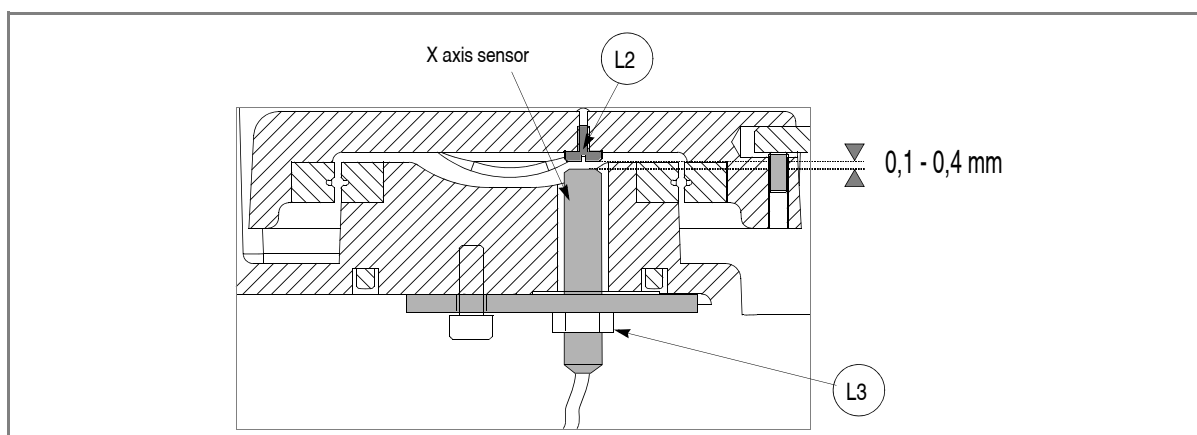

Fig. 57
- 4) loosen the (L3) nut. Unscrew the sensor from the plate and remove (fig. 57).
- 6) fit the new sensor in position, tightening it until it almost touches the (L2) screw (fig. 57) thus securing it with the (L3) nut.